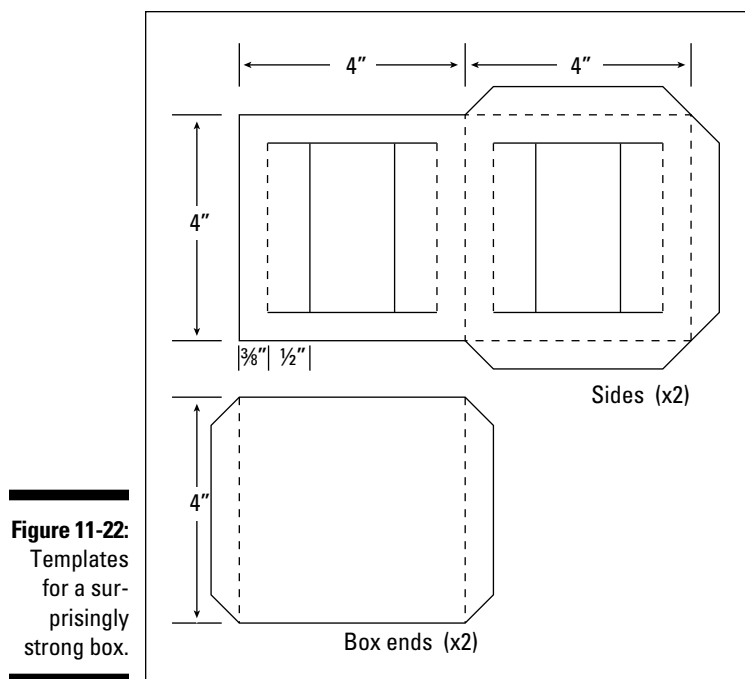

Figure 11-22:
1. Copy the templates from Figure 11-22 onto thin card.